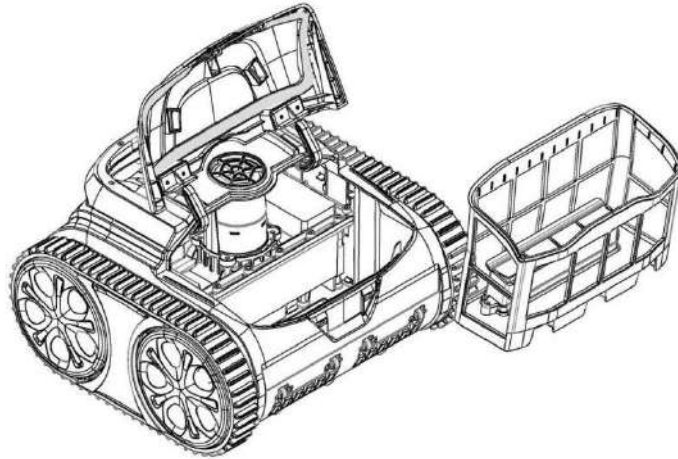

Figure 4-3
4.2.2 Take out the filter box from the machine (Figure 4-3).